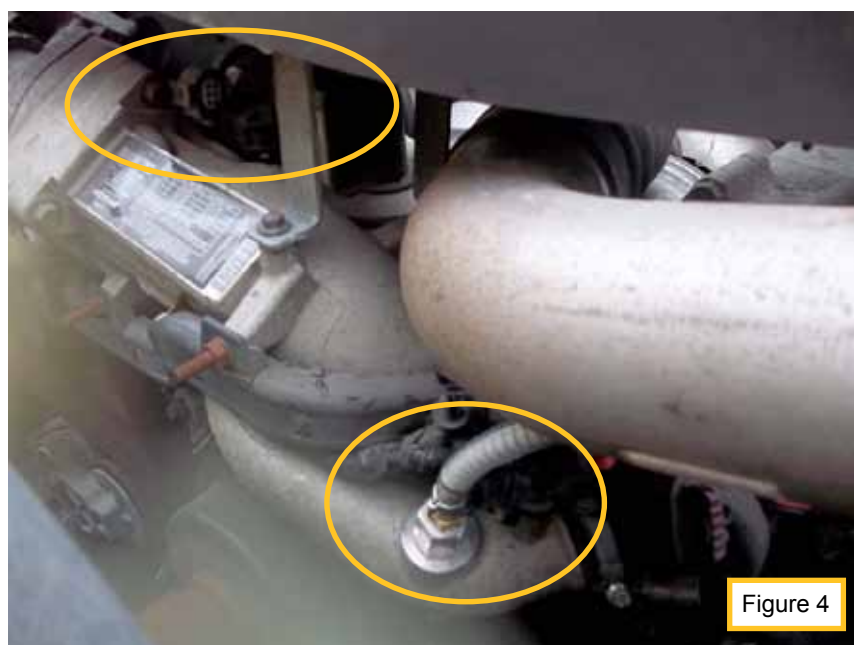

Figure 4
5. Install 069-3645 adapter (see figure 4) in place of above EGR temperature sensor.